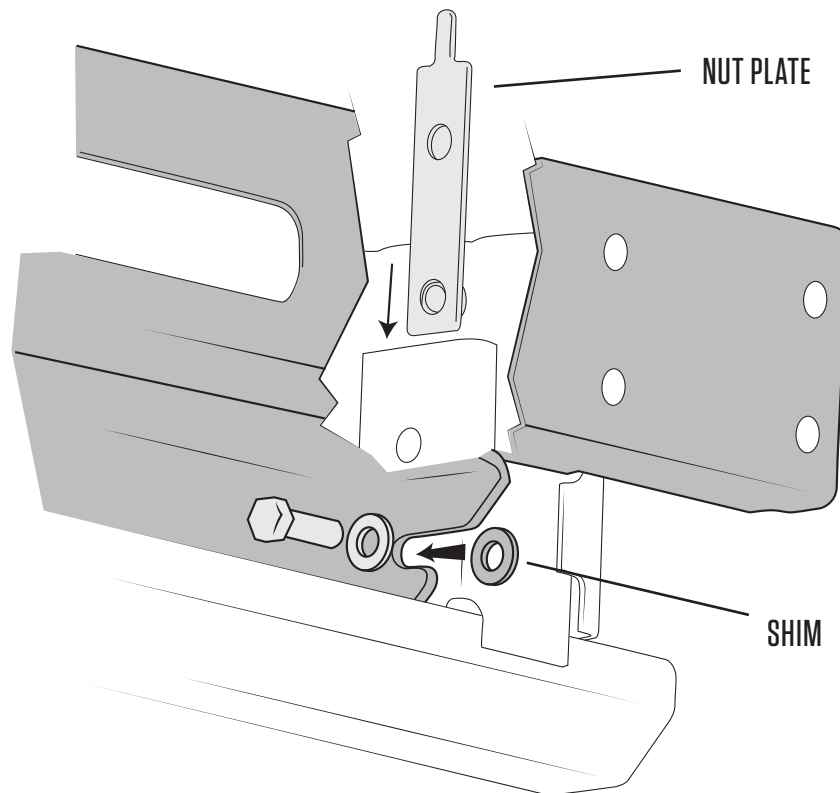

Figure 5
2. Position the Winch Mount Assembly from Step B, onto the Vehicle Frame Rails (Fig. 5).
3. Orient Hardware as shown (Fig. 5) for a proper installation of the Winch Mount Assembly. There are three (3) 40mm diameter washers supplied (4.5mm thick) and one (1) 26mm diameter washer supplied (2.5mm thick), all of which may not be needed for the installation.
4. Check the gap between the winch mount and frame rail (Fig. 5) – Shim, as necessary, using the washers provided.
5. Bolt the winch mount to the lower frame attachment points (19mm tools) using the Two (2) M12 hex head bolts, washers, spacers and nut plates (Fig. 5)— Torque to 55ft-#-74 N-m.